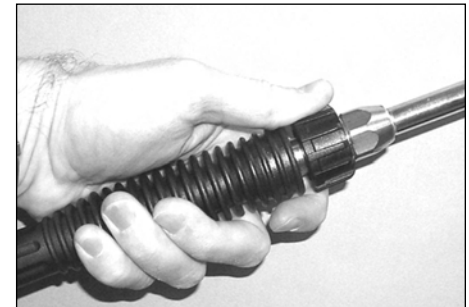

Figure 6 - Attach lance to gun
6. Attach the lance to the gun (See Figure 6).